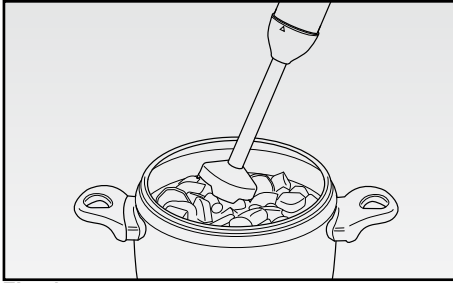

Fig. 4
- After having assembled the appliance, plug it in, put it into food (Fig. 4) and start it by pressing the minimum speed button (B). Only after few seconds, according to preparation and kind of food, it is possible to set a higher speed increasing it gradually by rotating the opposite top dial (A). According to use, it is possible to set also the max speed “Turbo” by pressing the opposite button (C).